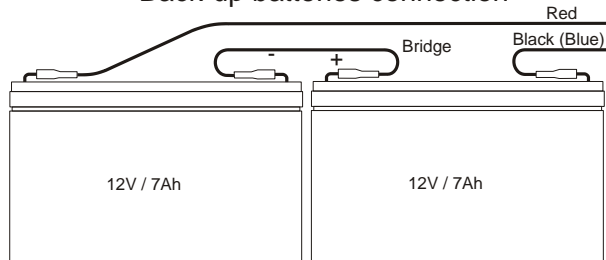

Fig.1
- feeding module (fig.1, pos. 1);
- two back up batteries (fig.1, pos. 2); The back up batteries are not included in the content of the delivery.
- Connecting terminals and a fuser 220V (fig.1, pos. 6 and 7).
- Fault condition (yellow LED). The fault condition could be mains voltage failure 220V or interrupted fuse Fs1; fault or missing back up battery; interrupted fuse Fs3; interrupted fuse Fs2 (fig.1).
- the relay contacts for fault condition (fig.1, pos. 4);
- voltage terminal 28V / 3.5A (fig.1, pos. 3);
- switched power supply indicator (fig.1, pos. 8);
- indicators for locating the fault conditions (fig.1, pos. 9), the number from left to the right provides information about the fault:
- Connecting bridge for the back up batteries (fig.1, pos.10)	- 1 pc.
5. Put the indicating PC board cable wires in the respective terminals (to connector fig.1, pos. 5) and the earthing wire of the cover. Then install the cover by means of the fixings.